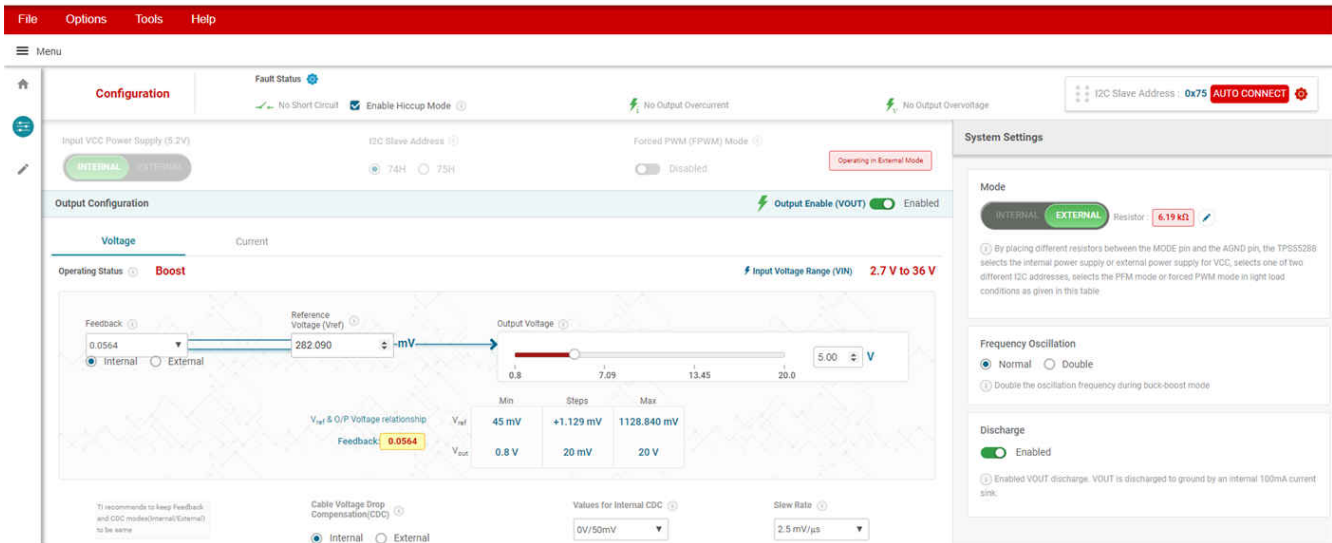

Figure 4-4. GUI User Interface of TPS55288EVM-045
Step 4: Click the start button. It will show the GUI user interface of TPS55288EVM-045 (Figure 4-4).